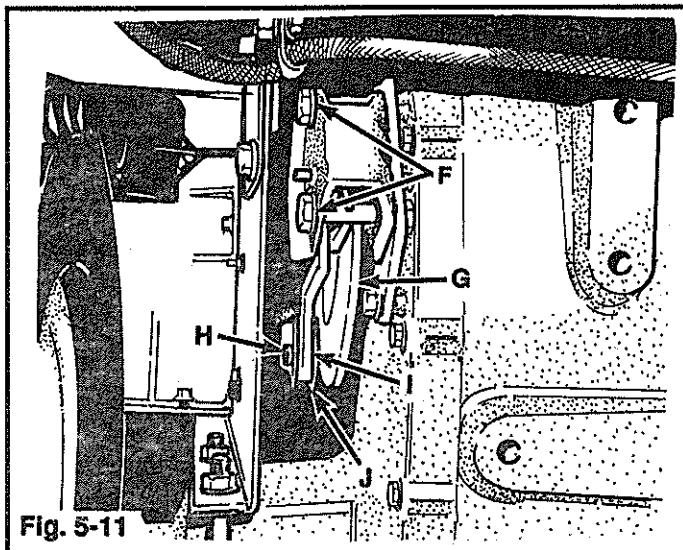

Fig. 5-11
1. Remove pin (H, Fig. 5-11) and drop brake yoke (J) down.
2. Tighten or loosen bolts (F) on brake caliper **equally** until there is a 1/4" to 1/2" play at the lower hole in brake arm (I). (Tightening bolts (F) lessens amount of play; loosening increases play).
3. Rotate brake yoke (J) until hole for pin (H) lines up with corresponding hole in brake arm with arm pushed forward taking up the 1/4" to 1/2" slack set in step 2.
4. Re-install pin (H) through brake yoke (J) and lower hole in brake arm (I). There will be a slight drag on brake disc (G) after this adjustment is made.